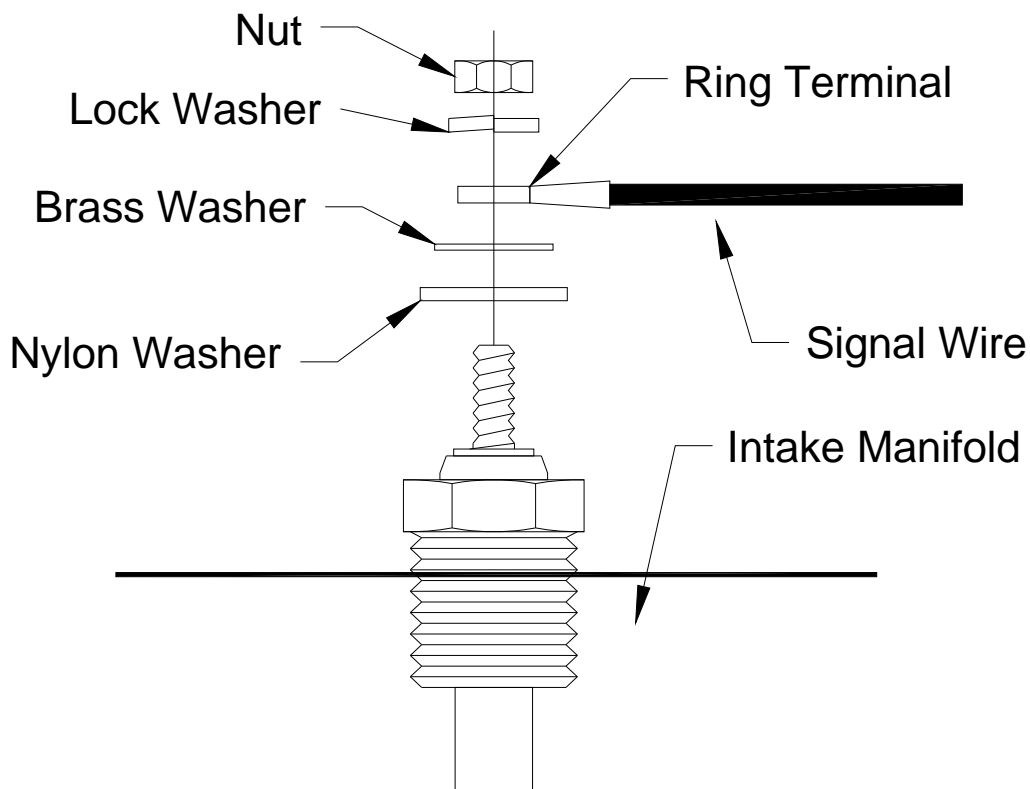

Figure 4: Connecting the temperature sender
- Step 2:** Connect the signal post of the temperature sender to the **dark green** wire on the 9 pin connector [position A] of the instrument wire harness. See Figure 4 below.